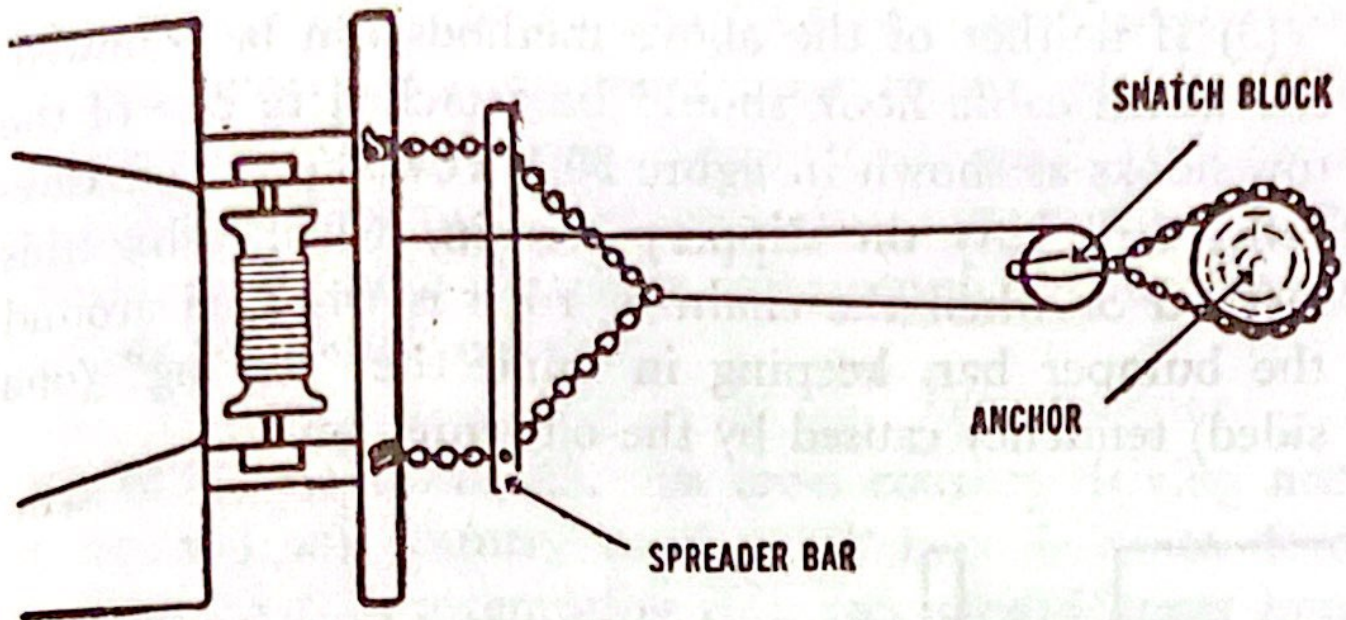

Figure 28. Rig with spreader bar.
c. Use snatch block. When practicable, do not use your winch for pulling your own vehicle without passing the winch cable through a snatch block secured to the anchor, as shown in figure 28. This rig is much better than attaching the end of the cable directly to the anchor, as the double pull lessens the strain on the cable and eases the jerks. Cable used single for heavy loads is often frayed or broken or otherwise damaged.